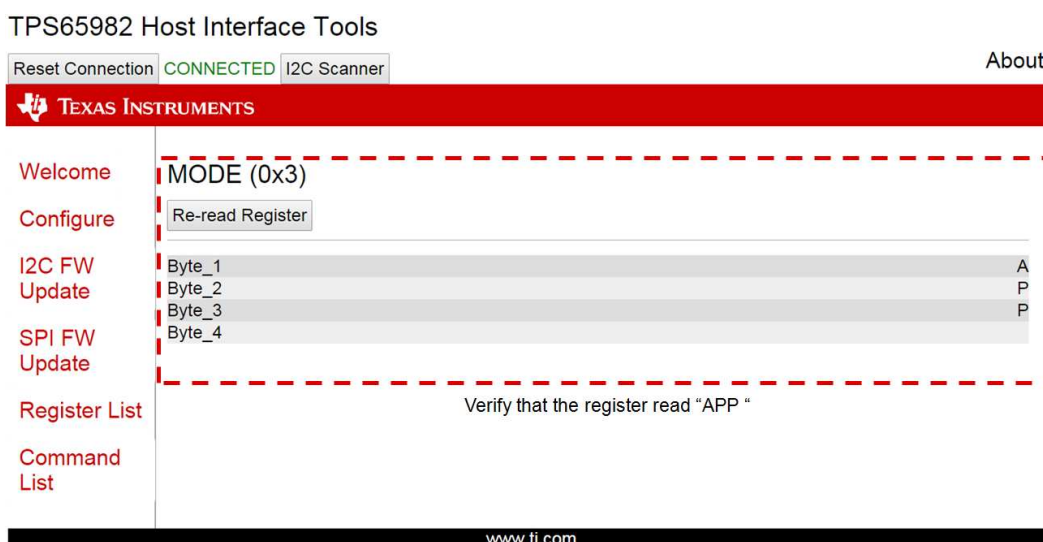

Figure 17. Mode Register
Step 11. Verify that the MODE register reads APP (see Figure 17).